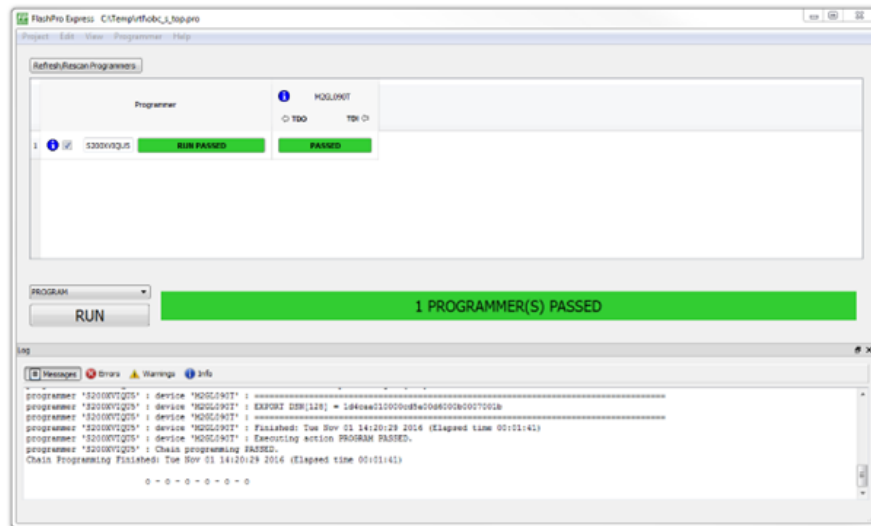

Figure 11.3 - View of FlashPro Express after program passed.
6. The FPGA should now be loaded with the new firmware, which might take a few minutes. Once it is finalized the second last message should be "Chain programming PASSED", see Figure 11.3.